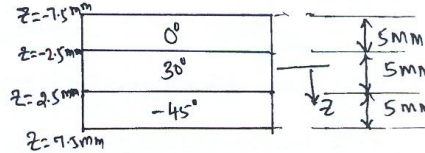

Fig.Q.5(b)
- b. Find the three stiffness matrices [A], [B] and [D] for a three-ply [0/30/-45] graphite/epoxy laminate as shown in Fig.Q.5(b). Use the unidirectional properties of graphite/epoxy. Assume that each lamina has a thickness of 5mm.  $E_1 = 181$  GPa,  $E_2 = 10.3$  GPa,  $\gamma_{12} = 0.28$ ,  $G_{12} = 7.17$  GPa. (10 Marks)